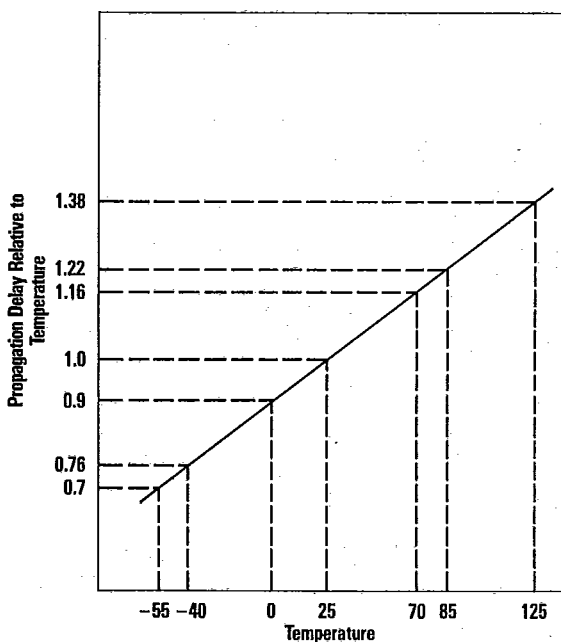
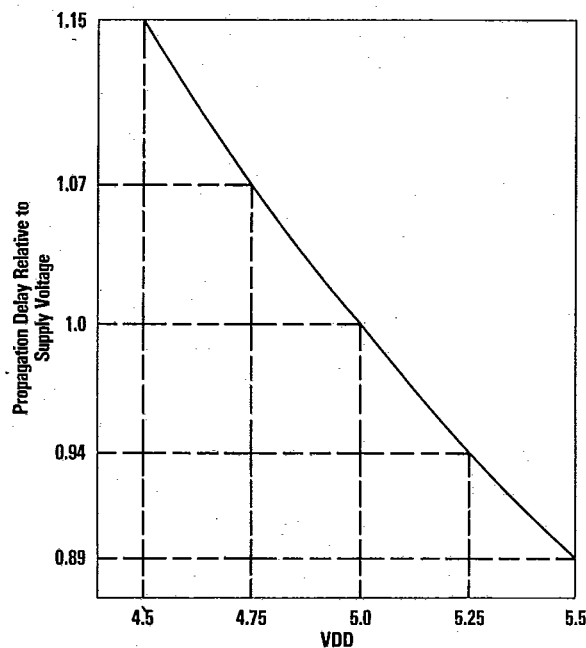
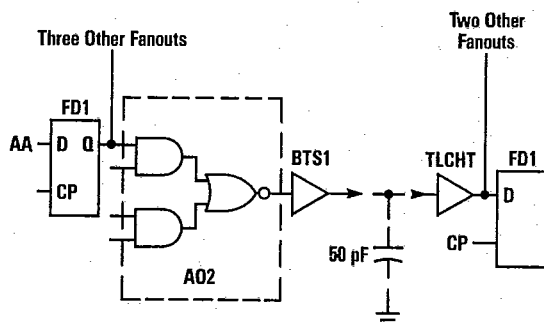

Figure 1: CMOS Propagation Delays as a Function of Temperature
Figure 2: CMOS Propagation Delays as a Function of Supply Voltage
Figure 3. Example of Worst-Case Propagation Delay through Critical Path
The effect of temperature may be estimated from Figure 1. The maximum junction temperature corresponds to a temperature multiplier (KT). In CMOS technology, the junction temperature is usually equal or very close to the ambient temperature. Similarly, Figure 2 shows the effect of supply voltage (KV). LSI Logic assumes a 40% variability resulting from all other factors including processing, that is, a factor of 1.4 for the worst-case processing multiplier (KO).
The circuit of Figure 3 must operate over 0°C to 70°C, and 4.75 V to 5.25 V power supply voltage. Using Figures 1 and 2 and the K_O multiplier, we determine the worst-case maximum delay to be $1.4 \times 1.16 \times 1.07 = 1.74$ times the typical delay.